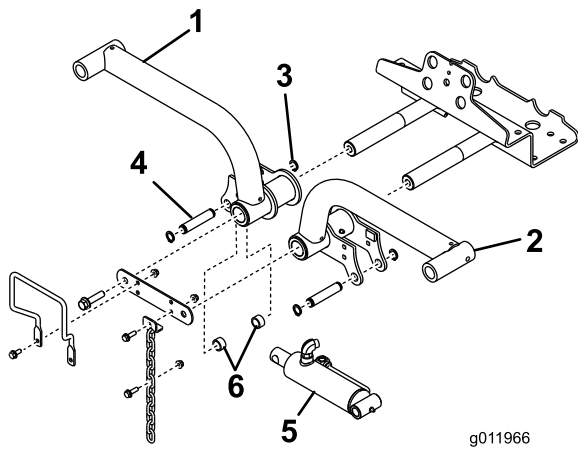

Figure 15
4. Insert the lift arms onto the lift arm pivot shafts (Figure 15), and secure each with a lift arm pivot shaft link and bolts previously removed.
6. Secure the right end of the lift cylinder to the right lift arm with a pin and 2 spacers (Figure 15). Secure it with a retaining ring.